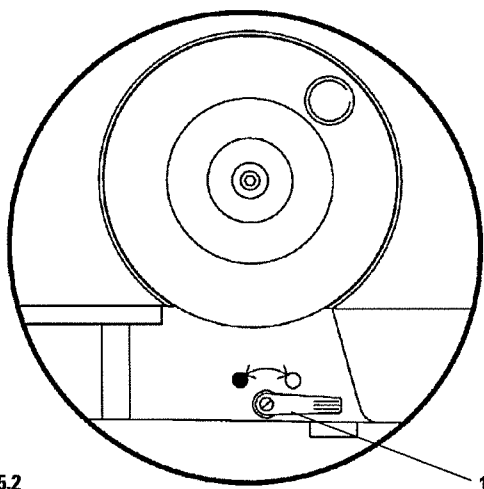

Fig. 5.2
The handwheel can be locked in any position using the locking lever (1) on the right side of the microtome base plate. The two locking positions of the lever (● = locked; ○ = released) are marked on the microtome base plate (Fig. 5.2).